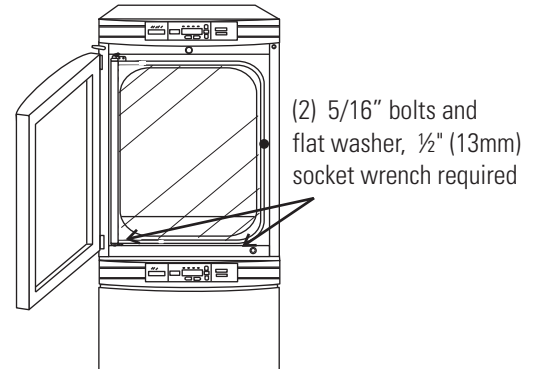

Figure 1-7. Align Slots and Bolts
- Align the sides of the top unit and bottom unit. Slide the top unit forward until the slots in the base of the top unit align with the 5/16"-18 stacking bolts in the exterior top of the bottom unit (Figure 1-7).
8. From the unit front, secure the base of the top unit to the exterior top of the bottom unit by tightening the 5/16-18 stacking bolts using a ½" (13 mm) wrench or suitable tool. Refer to Figure 1-7.